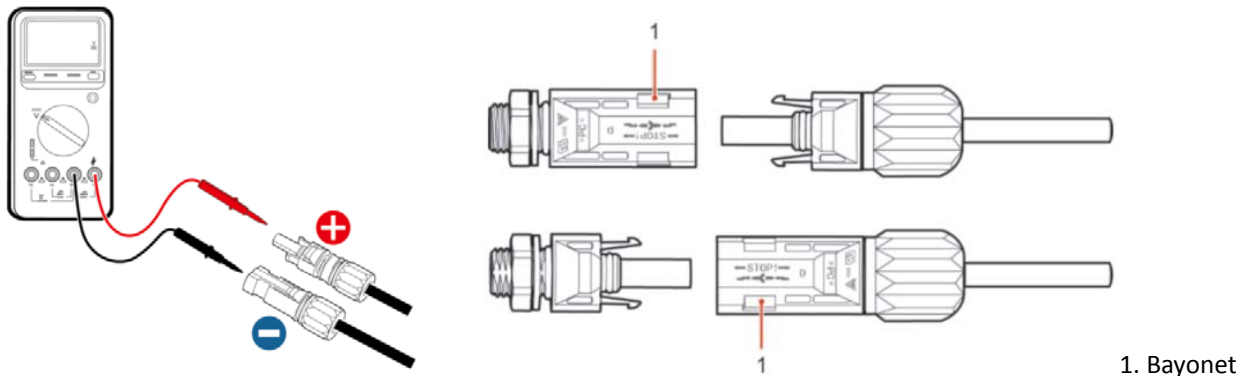

Fig. 9 Connect PV connectors
Step 3 Make sure the DC voltage of each PV string is less than 600V DC and polarities of PV power cables are correct. Insert the positive and negative connectors into HYD-ES inverter until you hear a "click" sound, as shown in Fig. 9.